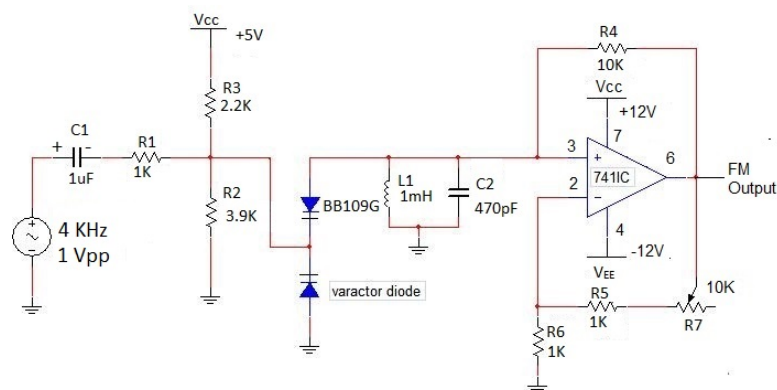

Figure 1: Frequency modulator using varactor diodes in the oscillator
1. The capacitance of varactor diode in *Figure1* is given by $100/\sqrt{V}$, where V is the amount of reverse bias voltage across p-n junction. Increasing the reverse bias voltage applied across the diode decreases the capacitance, the depletion region becomes wider. When an ac voltage is applied across the diode, the capacitance varies with the change in amplitude.
2. Generate a modulating signal of an amplitude $1V_{pp}$ with a fundamental frequency $f_m = 4KHz$ and apply as input to FM modulator as shown in *Figure1*.
3. Calculate the oscillating frequency from the *Figure1* using the expression